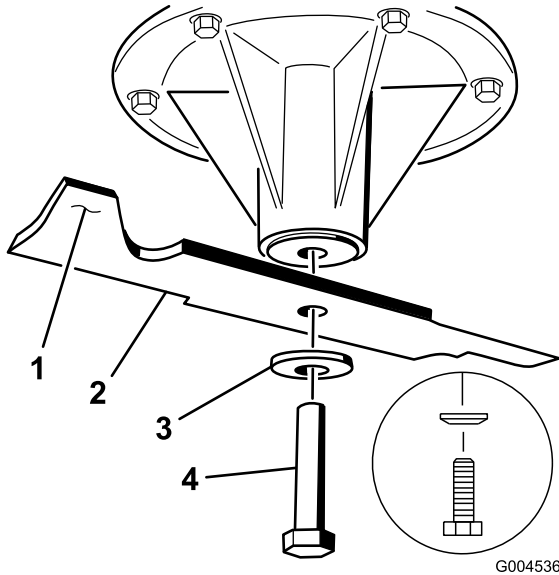

Figure 97
position, the blade is balanced and can be used. If the blade is not balanced, file some metal off the end of the sail area only (Figure 97). Repeat this procedure until the blade is balanced.
1. Install the blade onto the spindle shaft (Figure 97).
2. Install the spring disk and blade bolt. The spring disk cone must be installed toward the bolt head (Figure 97). Torque the blade bolt to 85-110 ft-lb (115-150 N-m).